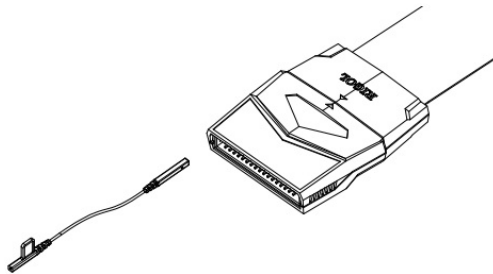

Figure 1
- Method one: users can connect the signals under test through the probe leads separately. You can easily identify the corresponding channel of each signal by the channel label on the probe leads and the color information on the probe head as shown in Figure 1.